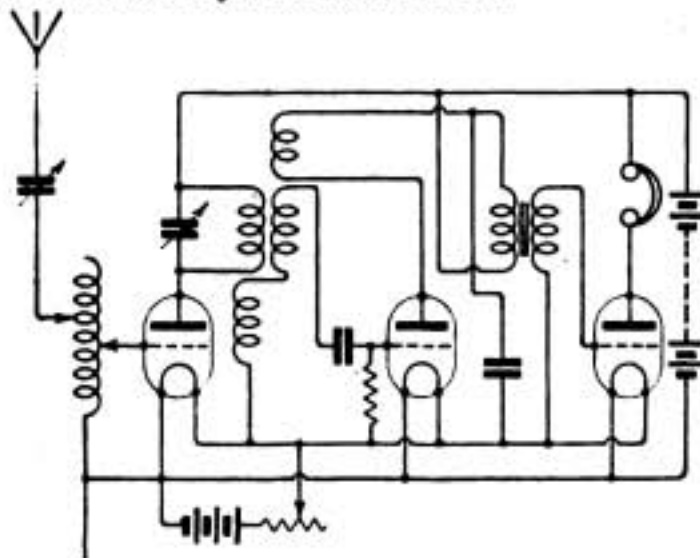

Fig. 2.
(1) See diagram (Fig. 2). (2) See note at the head of these columns on the subject of reaction, but with circuit given 4" x 3" of No. 26 should be all right provided that there is no coupling between the A.T.I. and the remaining coils.